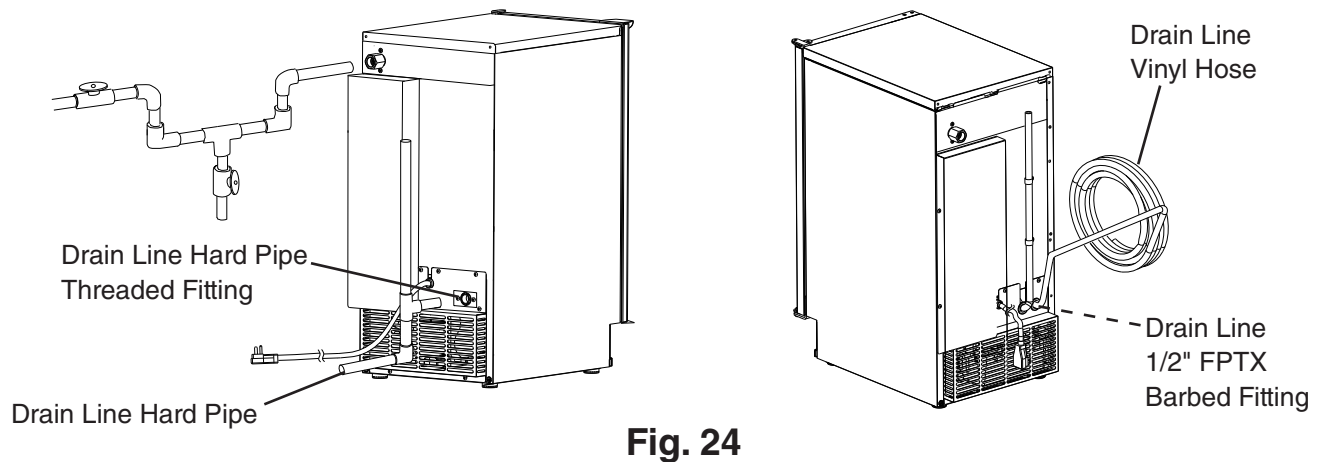

Fig. 24
b) Vinyl Hose Drain Line Installation: When connecting with vinyl tubing, install the vinyl hose barbed fitting from the accessory bag into the drain outlet. Secure the discharge hose to the drain pump with the medium clamp provided in the accessory bag. **NOTICE! Do not over-tighten the clamp.** When routing the vinyl hose, do not allow traps or kinks in the hose that will restrict water flow. The maximum discharge hose length is 20 feet (6 m). The maximum discharge hose lift height is 10 feet (3.05 m). Cut excess hose as needed. See Fig. 24.